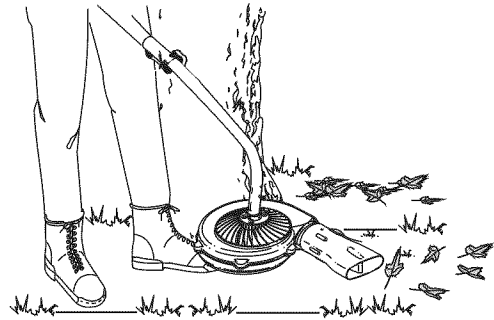

Fig. 7
- Use the flare nozzle for large, hard surfaces such as driveways and sidewalks (Fig. 7).